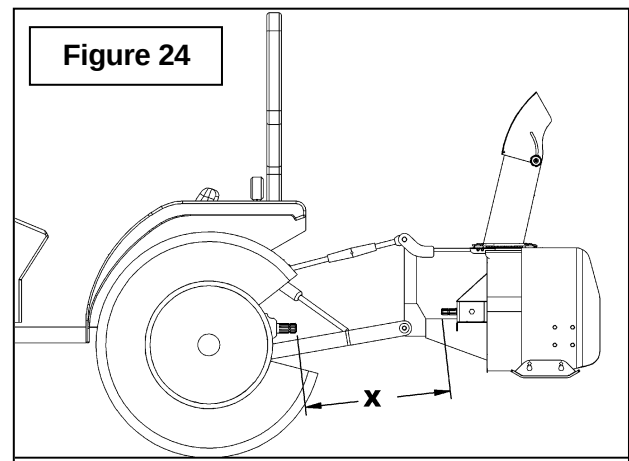

Figure 24
7. **Figure 24:** Connect the two remaining wires, the red wire to the "C" blade and the black wire to the "D" blade.
1. To determine the "**L**" length for your tractor model first find the "**X**" (Figure 24) factor by measuring the horizontal distance between the end of the tractor's drive shaft and the end of the snowblower's driven shaft when the snowblower is in transport position as shown on Figure.
2. Choose in the table below the "**Y**" factor according to the tractor category and deduct that number from "**X**" (Figure 24) to determine "**L**" (Figure 25) which is the center-to-center length between the universal joints.